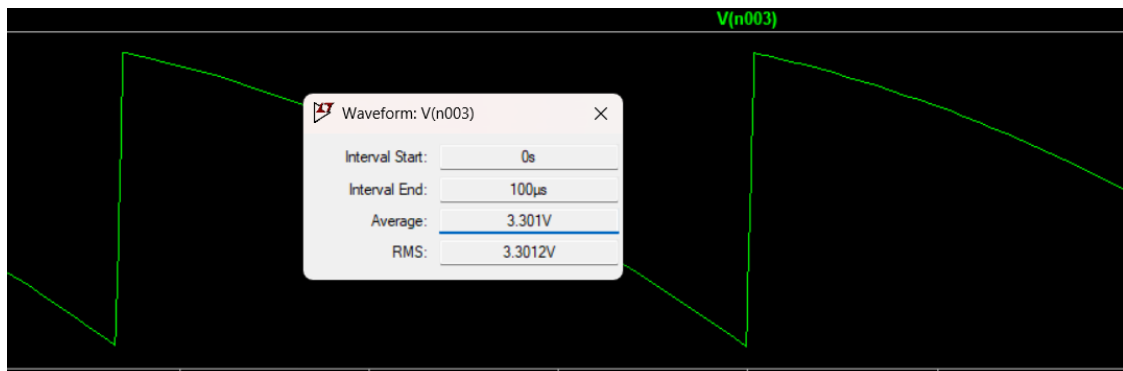

Fig. 7: Output voltage graph with value  $V_o=3.3V$
g) As seen from Fig. 7, switching period is still  $33.3\mu s$ .